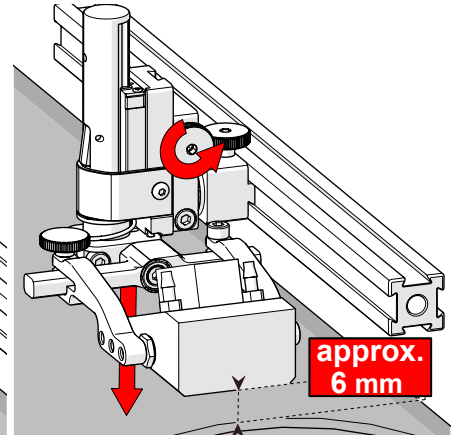

Fig. 96 - Lower toward scan surface
3. Tighten the vertical adjustment knob (Fig. 96).